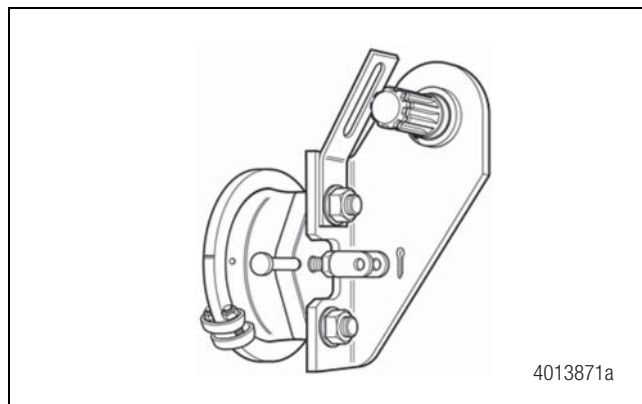

Figure 2
3. Mount the strap bracket to the air chamber mounting stud. Figure 2.